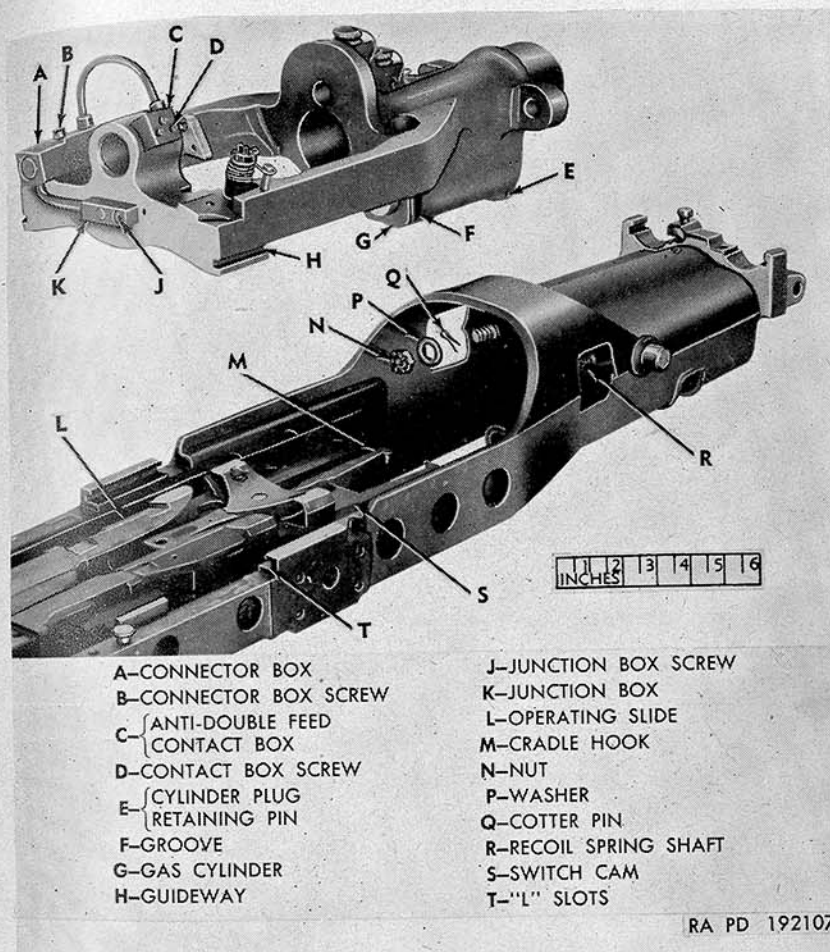

Figure 67. Drum cradle group removed from gun.
- e. Pull the drum cradle group rearward until it clears the front bearing of the receiver and "L" slots, and lift it from the receiver (fig. 67).
- (1) Remove the four socket-head screws that retain the firing circuit to the drum cradle (fig. 67); one at the junction box, one at the connector box, and the two lower screws on the antidouble feed contact box. Do not free third screw in antidouble feed contact box. This retains the cover.